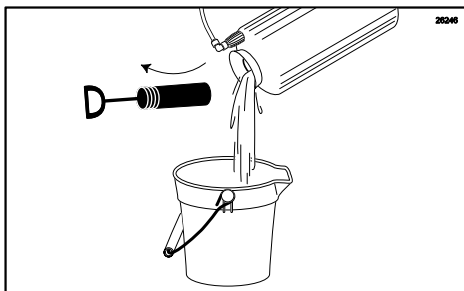

Figure 80
- Remove the hand pump from the Sanitizer Tank and discard any remaining sanitizer. (See Figure 80.)